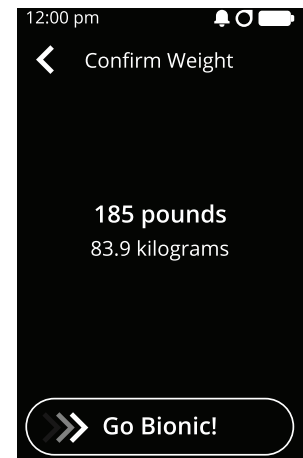

Figure 71
- Confirm the body weight you entered is correct, and then drag the **Go Bionic!** slider to the right (see Figure 71).